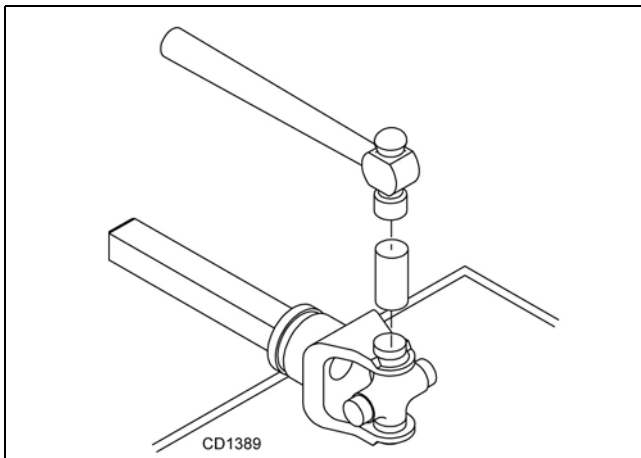

Figure 22.
- Seat cups by placing a drift or socket (slightly smaller than the cup) on cup and rap with a hammer. See Figure 22. Install snap ring and repeat on opposite cup.